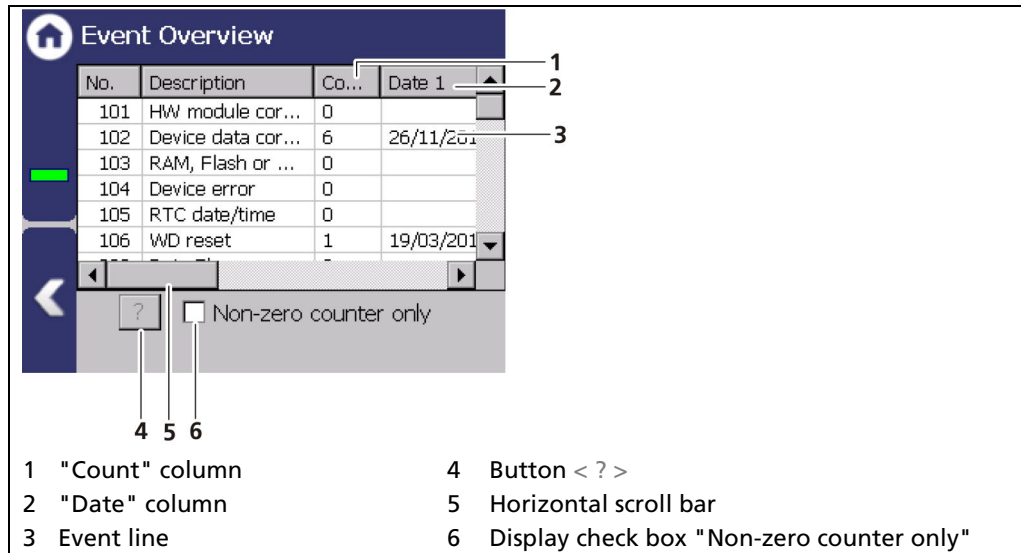

Fig. 71 Event Overview
1. Click on a line in the list (Fig. 71, item 3).
2. Click on < ? > (Fig. 71, item 4).
4. Slide the bar of the horizontal scroll bar (Fig. 71, item 5) to the right to see at what times (date, time) the event occurred.